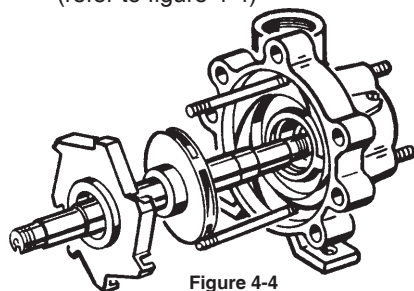

Figure 4-4
3. Now slide the diffuser (#9BI) onto the shaft from the outlet end. The bore of the diffuser will fit around the hub of the impeller, and the impeller will now be encased inside the diffuser. (refer to figure 4-4)